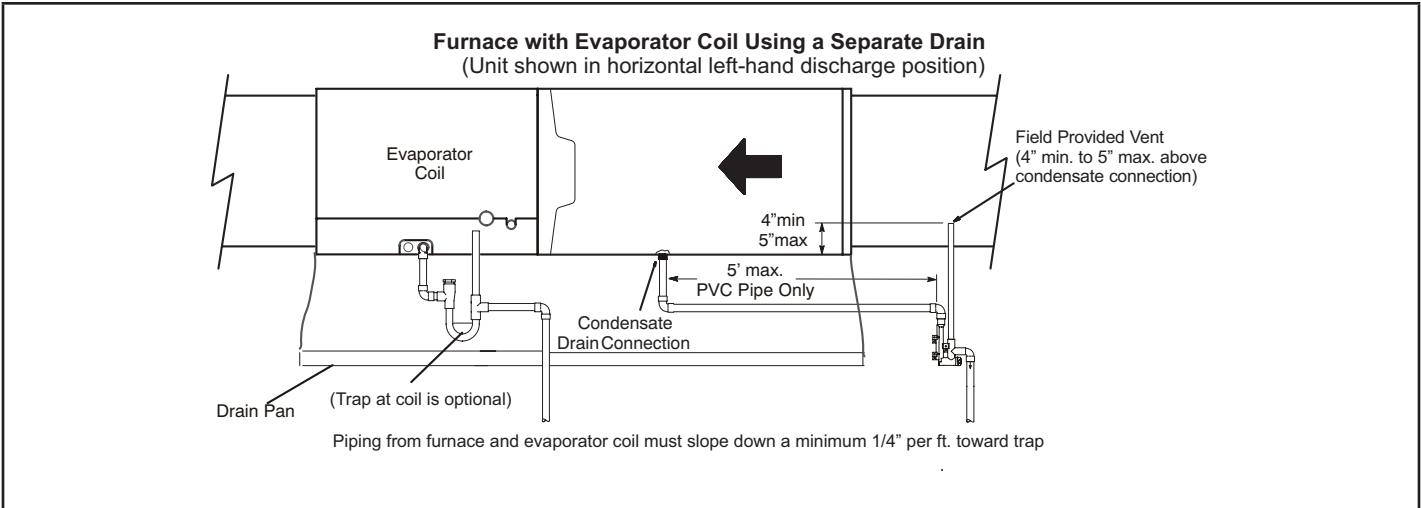

**FIGURE 44**
- 5 - FIGURE 44 and FIGURE 45 show the furnace and evaporator coil using a separate drain. If necessary the condensate line from the furnace and evaporator coil can drain together. See FIGURE 43, FIGURE 46 and FIGURE 47. *Upflow furnace (FIGURE 46)* - In upflow furnace applications the field provided vent must be a minimum 1" to a maximum 2" length above the condensate drain outlet connection. Any length above 2" may result in a flooded heat exchanger if the combined primary drain line were to become restricted. *Horizontal furnace (FIGURE 47)* - In horizontal furnace applications the field provided vent must be a minimum 4" to a maximum 5" length above the condensate drain outlet connection. Any length above 5" may result in a flooded heat exchanger if the combined primary drain line were to become restricted.